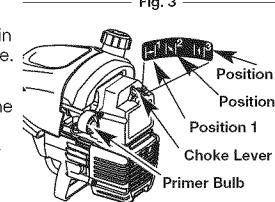

Fig. 4
- Fully press and release the primer bulb 10 times, slowly. Some amount of fuel should be visible in the primer bulb and fuel lines (Fig. 4). If fuel can not be seen in the bulb, press and release the bulb as many times as it takes before fuel can see.
- Place the blue choke lever in Position 1 (Fig. 4).
- Place the blue choke lever in Position 2 (Fig. 4).
- Continue to squeeze the throttle control, move the blue choke lever in Position 3 (Fig. 4) and continue warming the engine for an additional 60 seconds. During this time the unit may be used.
the engine hesitates, return the blue choke lever to Position 2 (Fig. 4) and continue warm-up.